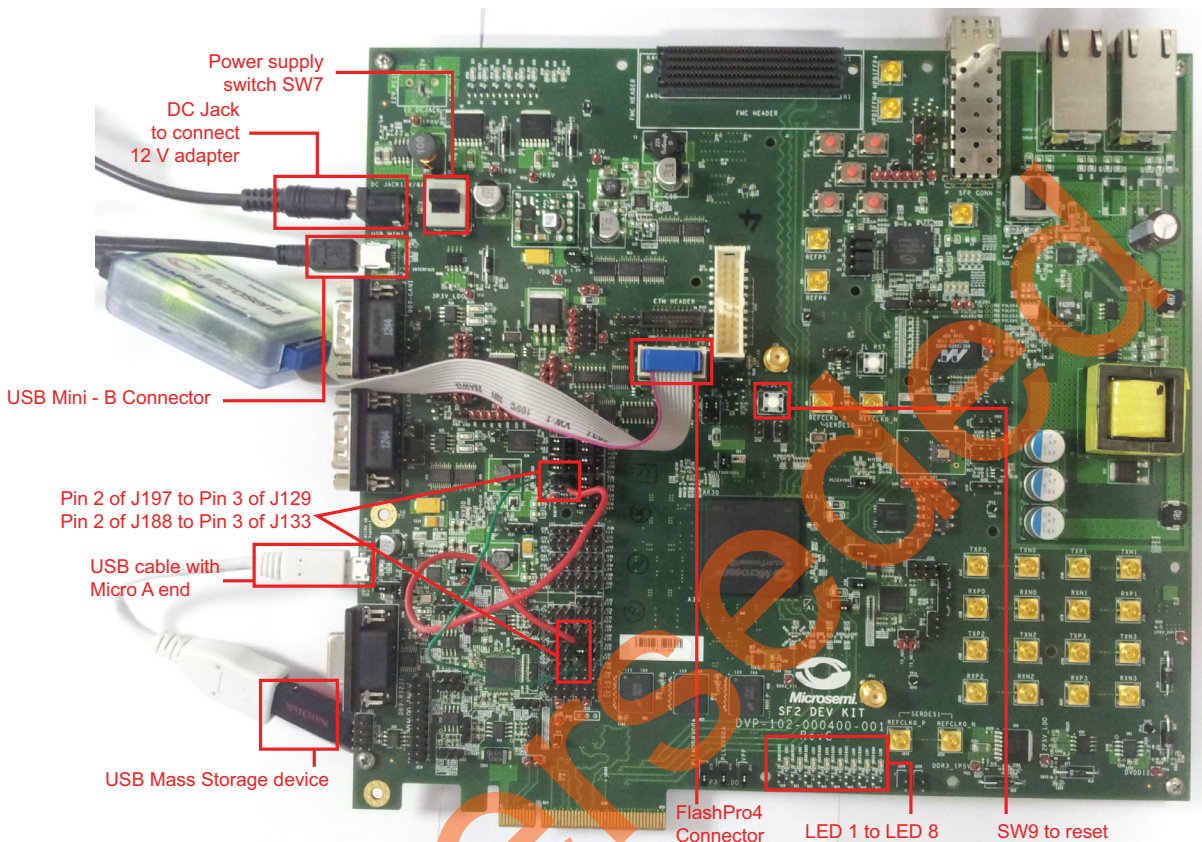

Figure 17 • Board Setup when Through the USB to UART (FTDI) Interface using the USB A to Mini - B Cable
- Figure 17 on page 26 shows these pin connections.